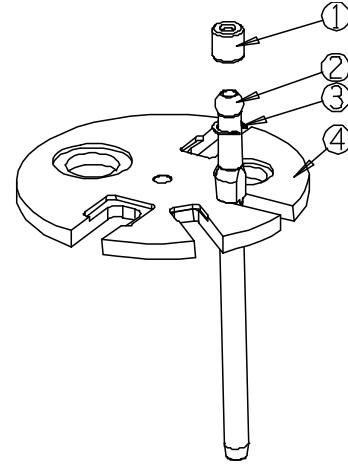

Figure 12-6 Install Valve Bushing onto Valve Stem (Note: Install Snap Ring on Stem prior to installing Bushing).
NOTE: Place the snap ring over the ball of the stem prior to installing Valve Bushing onto Stem, as shown in Figure 12-6.
1. Place the Valve Stem, with the ball end facing up, on the Press Plate Assembly. Slide the Snap Ring onto Stem. Refer to Figure 12-6.